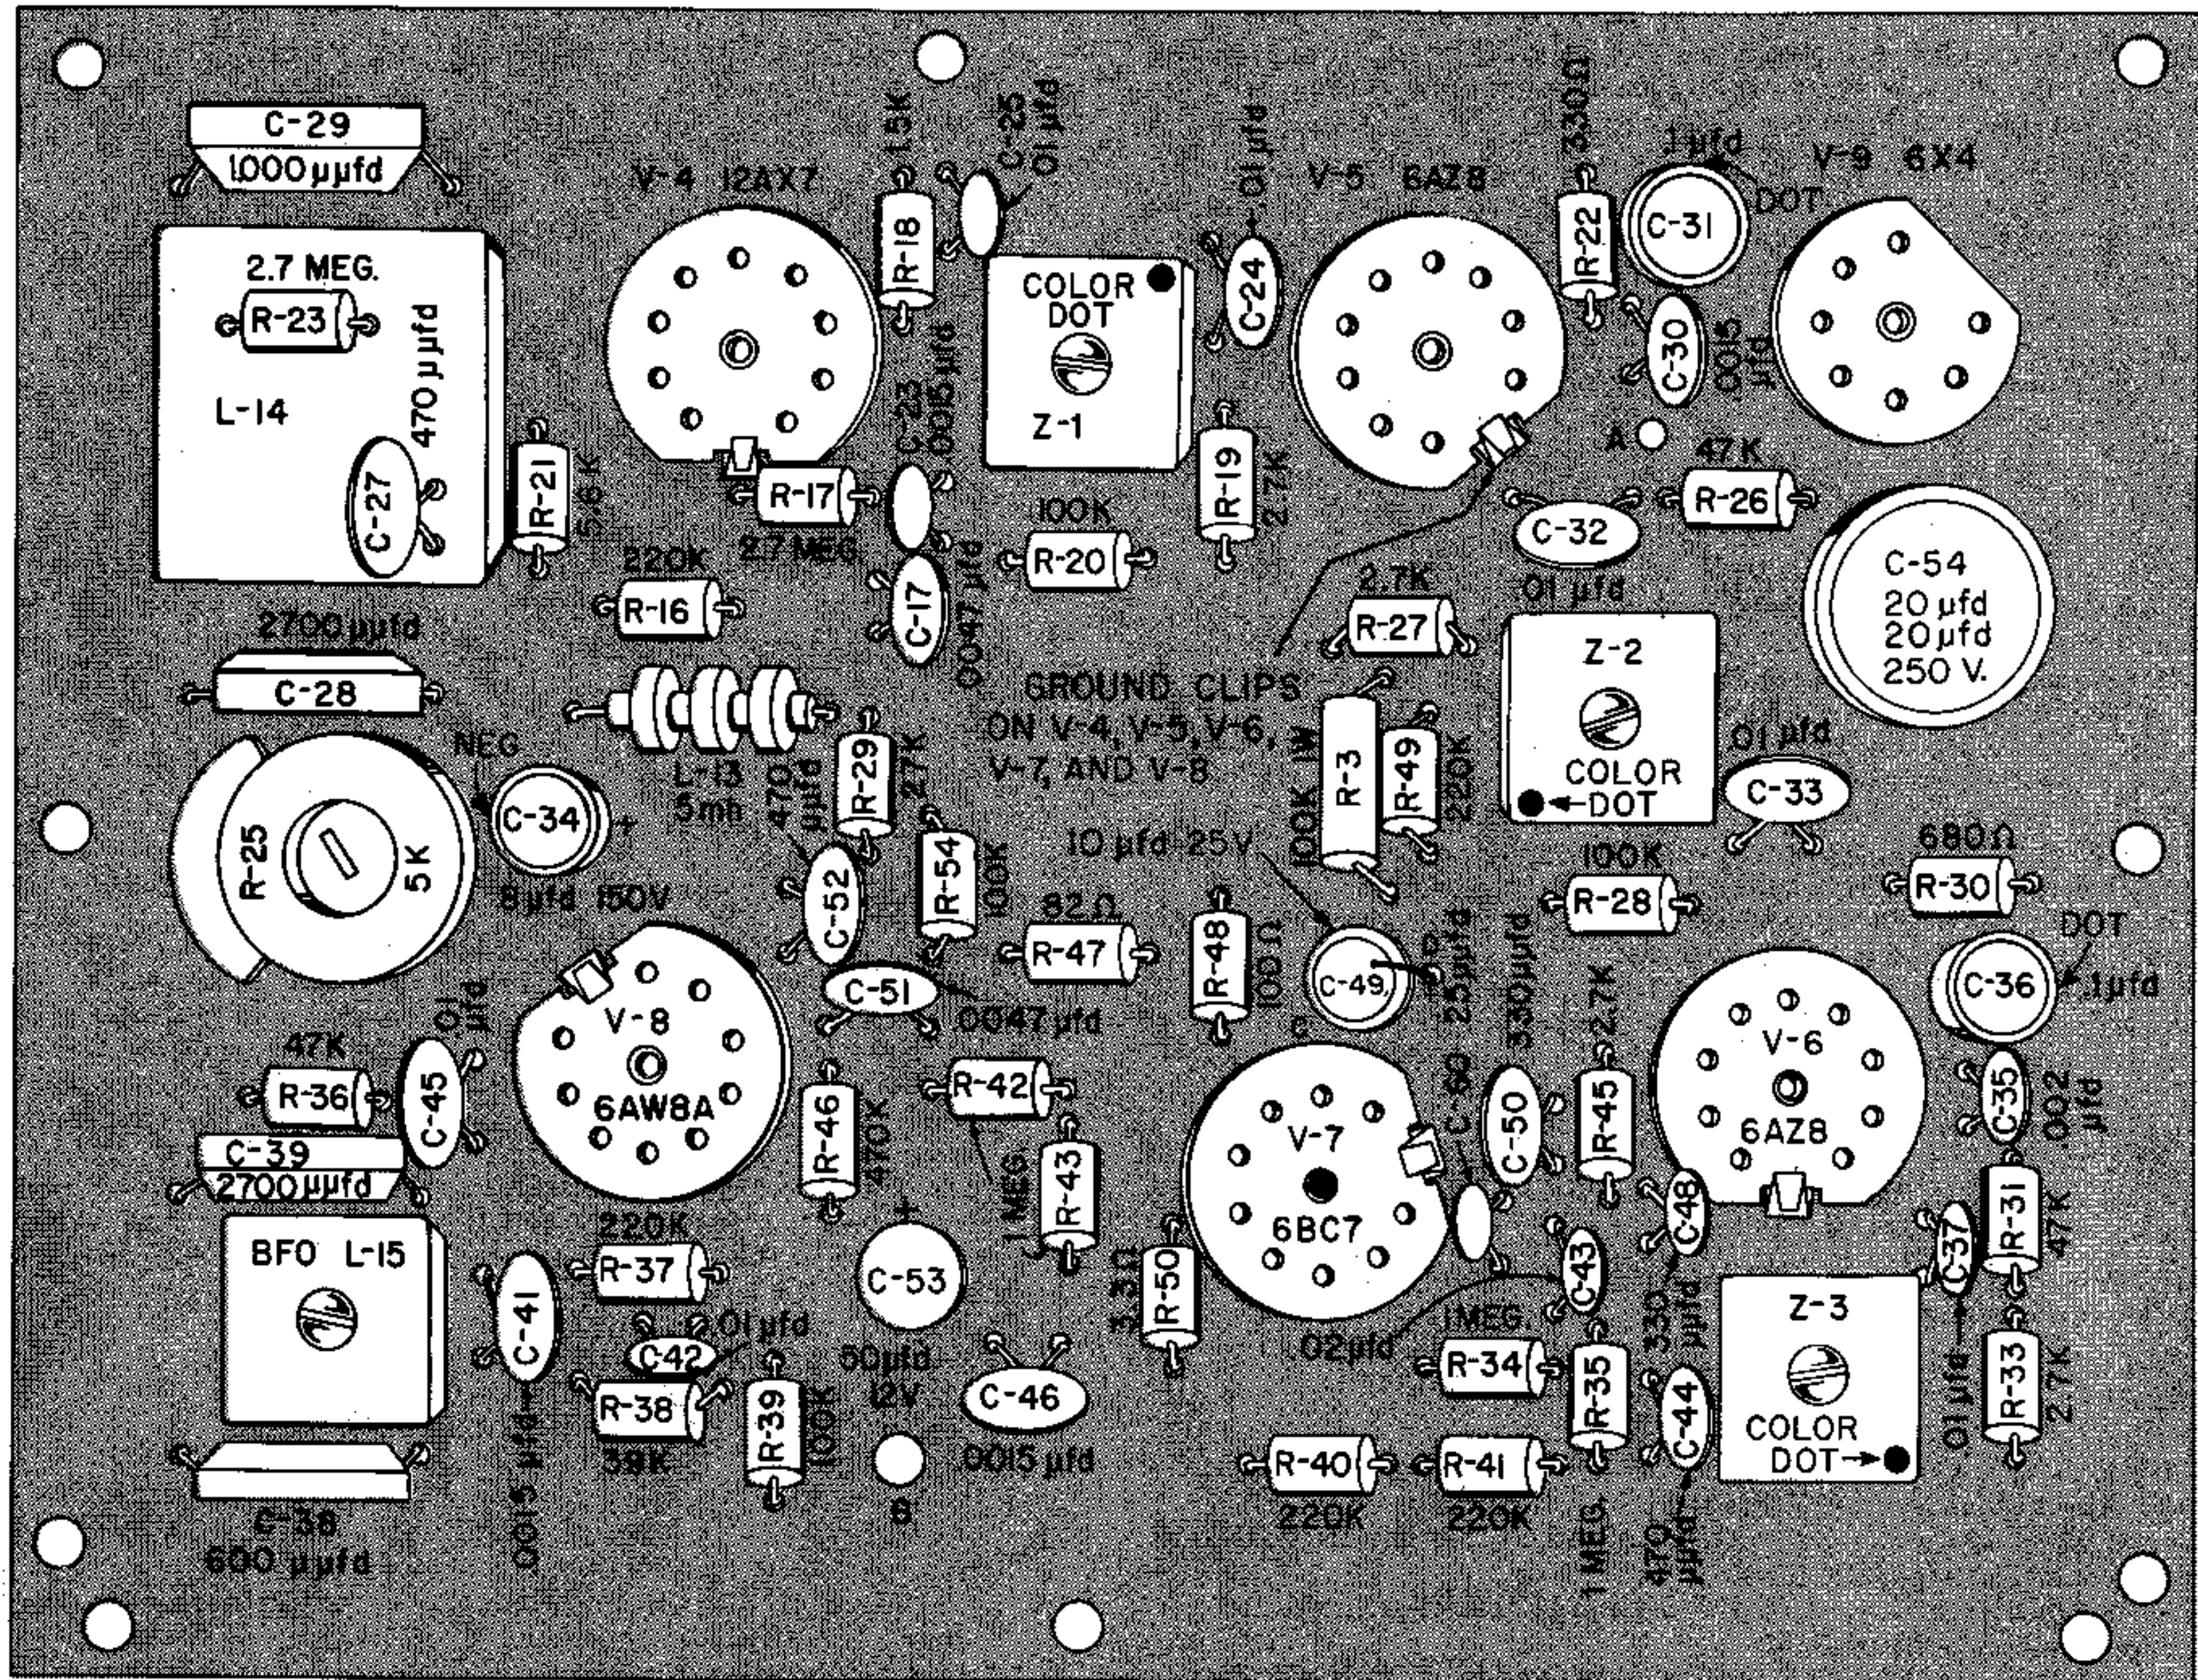

FIGURE 1. PARTS MOUNTING ON THE IF PRINTED CIRCUIT BOARD
SEE FIGURE 1.
- Notice that the three IF transformers are in stand-up cans and each has four terminals. These three transformers are all the same, so it makes no difference which you use as Z-1, Z-2, or Z-3. The IF transformers must be installed in the correct locations as shown on the circuit board. There is a color dot on the terminal-end of each transformer that must be in the position shown in Figure 1. The transformers will "snap" in place with moderate pressure from the top.